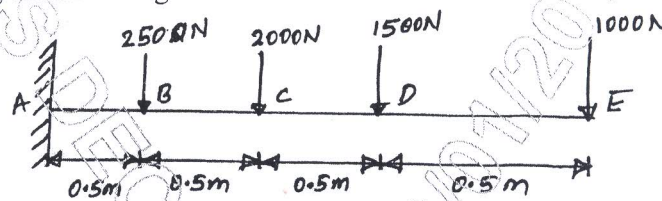

Fig.Q5(b)
b. A cantilever beam of length 2m carries a point load as shown in Fig.Q5(b). Draw the shear force and bending moment diagram.